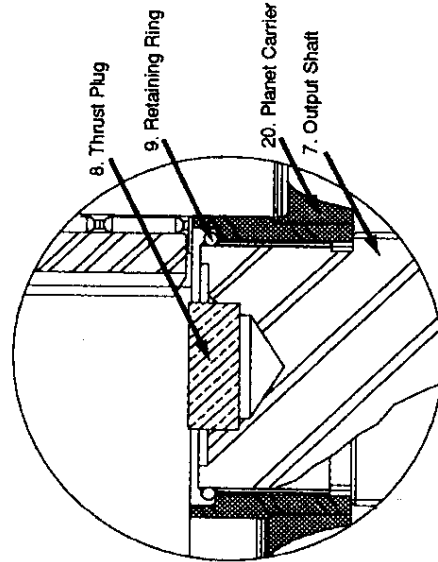
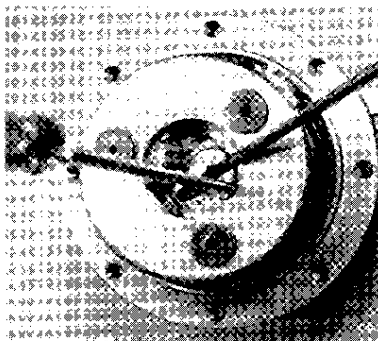
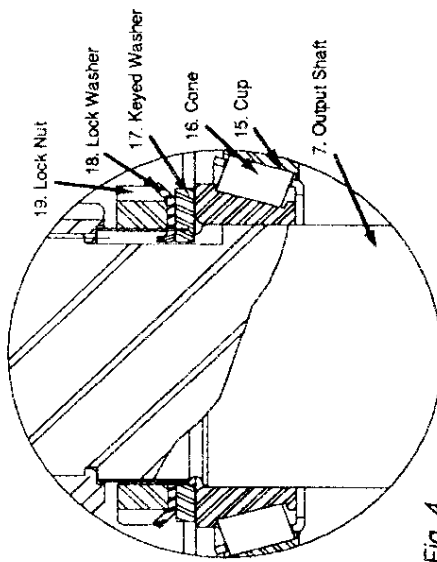

Fig. 2
Fig. 3
Fig. 4
- Remove sungear (24) from planet gears (28).
- Remove retaining ring (9) from groove in shaft (7).
Note: (9) is a wirelock retaining ring that retains the planet carrier assembly (20) on the output shaft (7). This locking ring must be pried out of the locking ring groove to remove the planet carrier assembly (20). This typically is accomplished by inserting two long screwdrivers between the planet gears and carefully working the wirelock out of the locking groove. (Fig. 2 & 3)
- Lift planet carrier assembly (20) from shaft (7).
- Bend tab on lock washer (18) away from lock nut (19).
- Using a spanner wrench or HECO tool #29150, unscrew lock nut (19) and remove lock washer (18) and keyed washer (17). (Fig. 4)
- Stand output shaft in vice or press and press thrust plug (8) into shaft (7). (Fig. 2)
- Using an appropriate tool, press bearing cups (11) and (15) into the housing. Note: Insure cups are square with counterbore before seating.
- Press bearing cone (10) onto end of output shaft (7) using appropriate tool. Seat bearing cone against shoulder on shaft. Note: If flange shaft unit is being assembled, the assembled seal carrier must be in position prior to installing bearing cone (10). (See instructions 26, 27 & 28 for assembly detail)
15. Stand output shaft (7) and assembled cone securely in vice with input spline of shaft up.
16. Stand housing (12) on shaft. Seat bearing cone (10) against bearing cup (11) in housing.
17. Press bearing cone (16) onto end of shaft (7) or heat bearing cone (16) to approximately 180°-200° and slip into place. (HECO recommends heating the bearing cone) Seat bearing cone against its cup in housing.
18. Install keyed washer (17) and lock washer (18) on threaded end of shaft. Apply never-seize or similar lubricant on threads and thread lock nut (19) onto shaft. It is important to rotate housing to seat bearings while tightening lock nut till housing resists rotation and end play is minimal. (Fig. 4 & 6)
19. Locate tab on lock washer in line with slot on lock nut and bend tab into slot to prevent lock nut from loosening. (Fig. 4)
20. Lubricate spline end of shaft (7), lay retaining ring (9) on end of shaft. Slide planet carrier assembly spline onto shaft spline. [Model 20D— Slide large planet carrier assembly] Reach through the planet carrier and seat retaining ring (9) into groove at end of shaft (7). (Fig. 2) This is best accomplished using two long screwdrivers. (Fig. 3)
21. Lubricate 'O' rings (14). Place one 'O' ring (14) around pilot on bearing housing. Note: Check for sharp edges or burrs on housing pilot.
22. Place internal gear (21) into mesh with planet gears (42) of planet carrier assembly. Line up holes in internal gear (21) with holes in housing (12).
33. Remove planet bearings (41) from planet gears (42).
34. Examine brass thrust plug (8) in end of shaft (7). (Fig. 2) If wear is apparent, remove by inserting a 1/4" self tapping screw and jacking the plug out of the shaft.